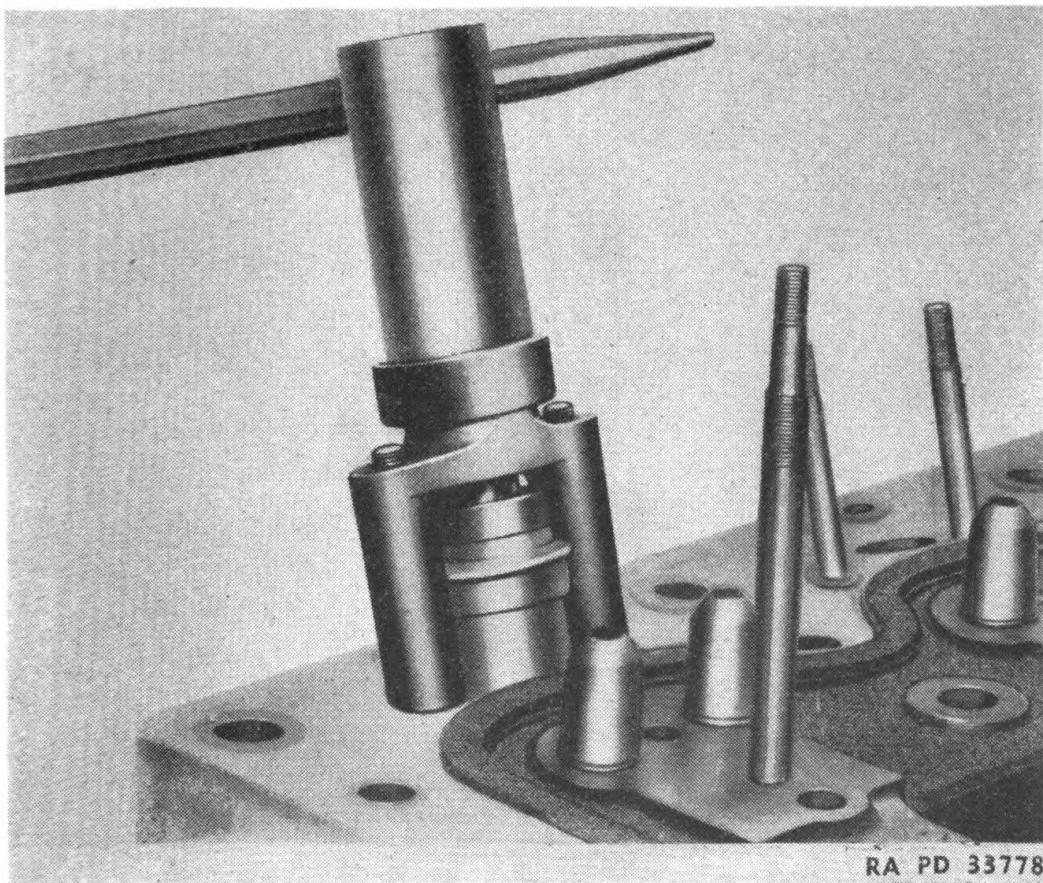

FIGURE 57.—Reinstalling the precombustion chamber.
c. In reinstalling the injection valve (fig. 57) make certain the tapered end of the valve at (8) (fig. 58) and its seat in the precombustion chamber are perfectly clean and that the gasket (6) is in place.